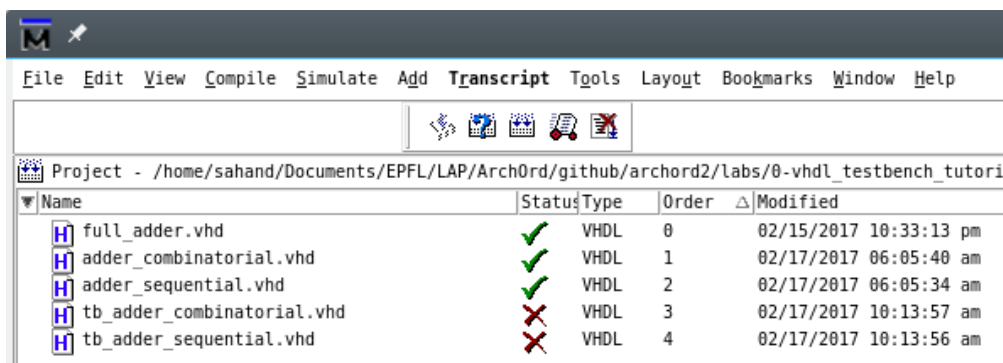

Figure 4: Compiling all files (empty testbenches)
4. Click on the  icon to compile all sources. The RTL files will compile successfully, but the testbenches will fail to compile (Figure 4). This is normal as the testbench files are empty, so ModelSim does not detect any entity to compile. If your output is not as in Figure 4, then it means you have added the various VHDL files in a different order from that shown in Figure 3 ("Order" column). You can solve this issue by clicking a few more times on the  icon until ModelSim correctly determines the right compile order of the VHDL files based on their dependencies.